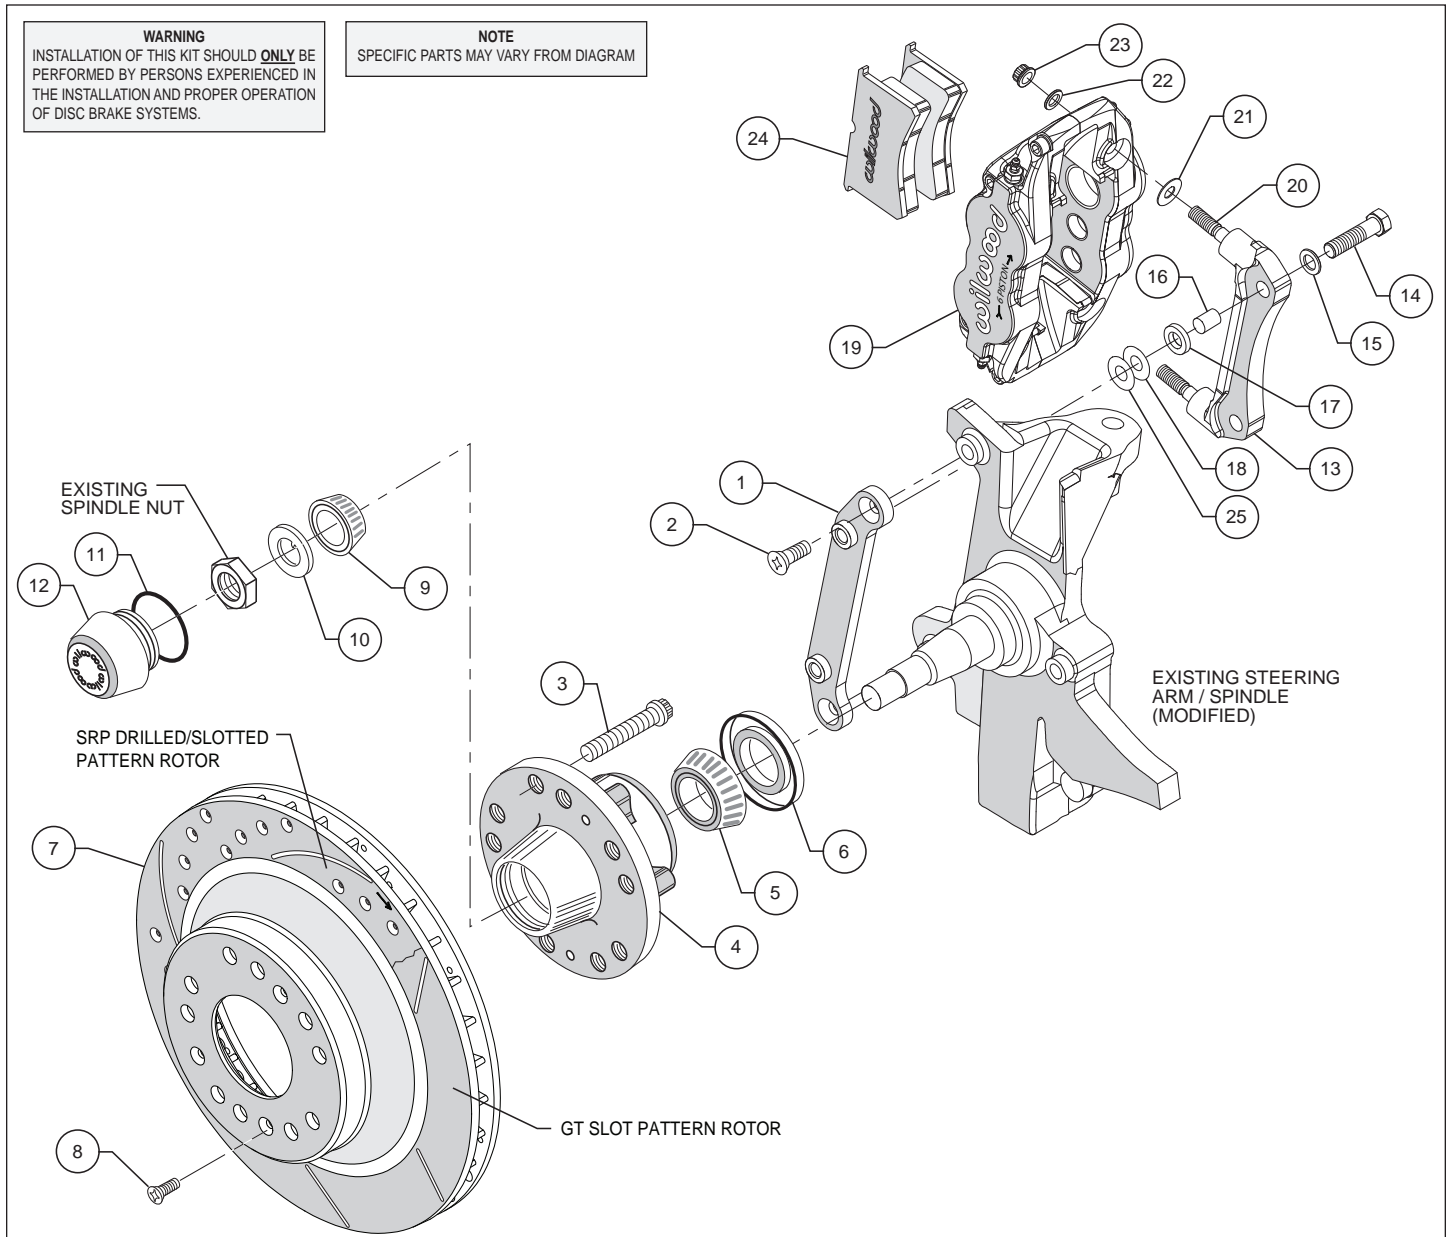
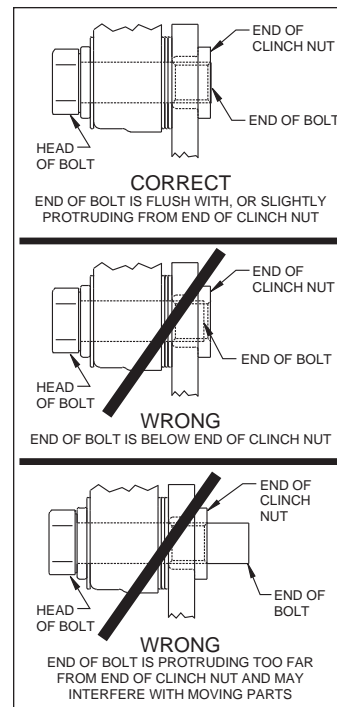

Figure 2. Typical Installation Configuration
Figure 4. Clinch Nut Engagement Diagram
Assembly Instructions (numbers in parenthesis refer to the parts list, and Figure 2): **CAUTION:** All mounting bolts must fully engage clinch nuts. Be sure to check that all bolts are either flush or protruding through flanged side of clinch nut after shimming, Figure 4.
- Orient the flat mounting bracket (1) as shown in Figure 2 and install using bolts (2). **NOTE:** Be sure the heads of the flat caliper bracket (1) insert nuts are facing outward toward the wheel. Temporarily tighten the mounting bolts. **NOTE:** The bracket must fit squarely against the mount bosses on the upright. Inspect for interference from casting irregularities, machining ridges, burrs, etc. After the bracket fitment has been checked, remove the bracket mounting bolts one at a time and apply red *Loctite*[®] 271 to the threads. Torque bolts to 40 ft-lb.
- The caliper radial mount bracket (13) should initially be installed with clean, dry threads on the mounting bolts. Place sleeve (16) into the holes on the bracket. Orient the bracket as shown in Figure 2, and install using bolts (14), and washers (15). Position spacer (17), and shim washers (18 and 25) between the two brackets. Initially place one .030" thick shim and one .016" thick shim on each bolt between the two brackets, Figure 2. Temporarily tighten the mounting bolts. Later, after the caliper alignment has been checked, the mount bolts will be secured using red *Loctite*[®] 271.
- Install wheel studs (3) into the hub (4), Photo 1. Torque to 77 ft-lb. **NOTE:** *There are two five lug patterns in the hub (5 x 4.50 and 5 x 4.75).* Ensure the correct hub stud pattern is being used to fit the wheel application.
- Pack the large inner bearing cone (5) with high temperature disc brake bearing grease (available from your local auto parts store) and install into the backside of the hub (4), Photo 2.
- Install the grease seal (6) by pressing into the backside of the hub (4), flush with the end of the hub, Photo 2.
- Pack the small outer bearing cone (9) with high temperature disc brake bearing grease and install into hub (4). Slide the hub assembly onto the spindle. Secure using spindle washer (10) and OEM spindle nut, Photo 3. Adjust bearings per OEM specifications. Install saved OEM nut lock (if any) and a new cotter pin (not included).
- Screw dust cap (12) into hub (4), Photo 4. Friction created by the o-ring (11) on the dust cap keeps it from unscrewing. **NOTE:** *The O.D. of the existing OEM spindle washer may be larger than the I.D. of the dust cap not allowing it to seat against the hub face. Therefore, use the spindle washer (10) supplied with the kit instead of the OEM washer.*
- Slide the hat/rotor (7) onto the hub (4) taking care to align the small countersunk holes in the hat with the small threaded holes in the hub. **NOTE:** *The hat must fit flush against the hub face or excessive rotor run out may result.* Install three flat head screws (8) through the small holes in the hat (7), Photo 4, and torque to 85 in-lb.
- **NOTE:** *This kit contains distinct right and left hand calipers that must be mounted in a specific direction, as described below.* Lubricate the caliper mounting studs (20) with lightweight oil. Initially place one .035" thick shim (21) on each stud between the caliper and the bracket, as shown in Figure 2 and Photo 5. Mount the caliper (19) onto the bracket (13) using lock nuts (23) and washers (22), Figure 2. Ensure that the caliper is mounted so the largest pistons are at the rotor exit end of the caliper, in relation to the direction of rotor rotation. Temporarily tighten the lock nuts and view the rotor through the top opening of the caliper. The rotor should be centered in the caliper, Photo 6. If not, adjust by adding or subtracting shims (18 and/or 25) between the two brackets. Always use the same amount of shims on each of the two mounting bolts. Once the caliper alignment is correct, remove the bracket mounting bolts one at a time, apply red *Loctite*® 271 to the threads, and torque to 60 ft-lb.
- Remove the caliper center bridge pad retainer bolt, nut, and tube from the caliper. Insert the brake pads (24) into the caliper, with the friction material facing the rotor, as shown in Photo 7. Check that the top of the brake pad is flush with the outside diameter of the rotor, Photo 8. If not, adjust by adding or subtracting shims (21) between the caliper and the bracket. After the caliper pad height is set, torque the caliper lock nuts (23) to 30 ft-lb. Secure the brake pads in place with the center bridge pad retainer tube, bolt, and locknut. The locknut should be snug without play in the bolt or tube. Be cautious not to over tighten.